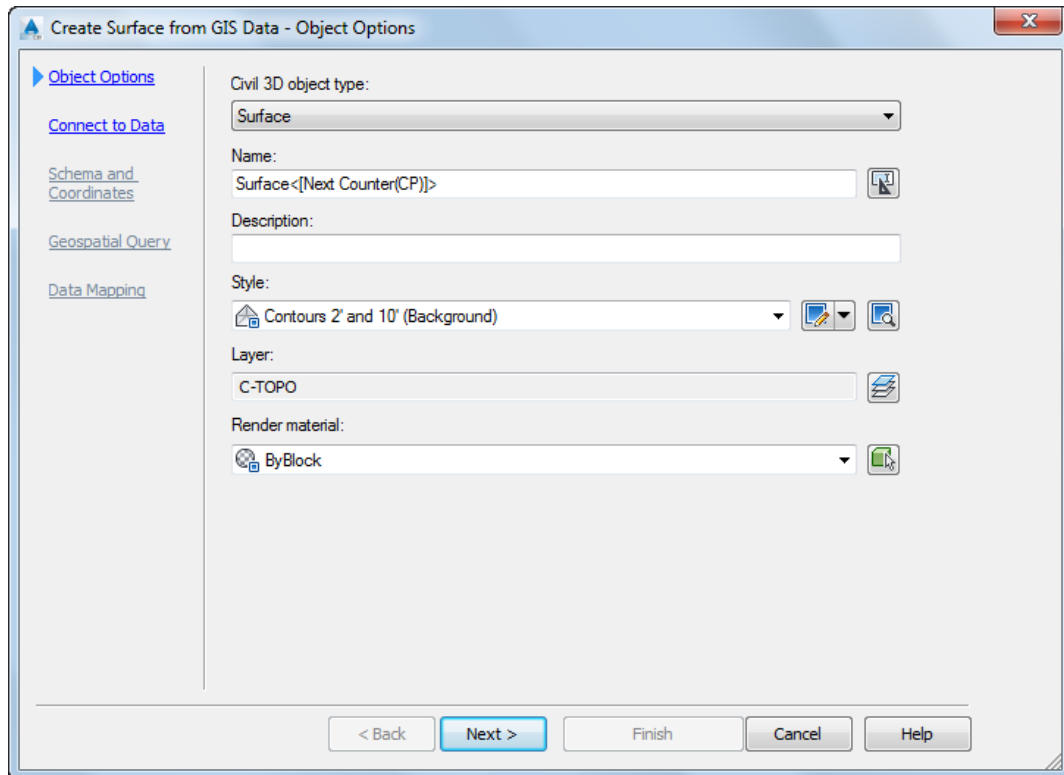

Figure 3-73 The Object Options page of the Create Surface from GIS Data wizard
- Choose the **Create Surface from GIS Data** tool from **Home > Create Ground Data > Surfaces** drop-down; the **Object Options** page of the **Create Surface from GIS Data** wizard is displayed, as shown in Figure 3-73.